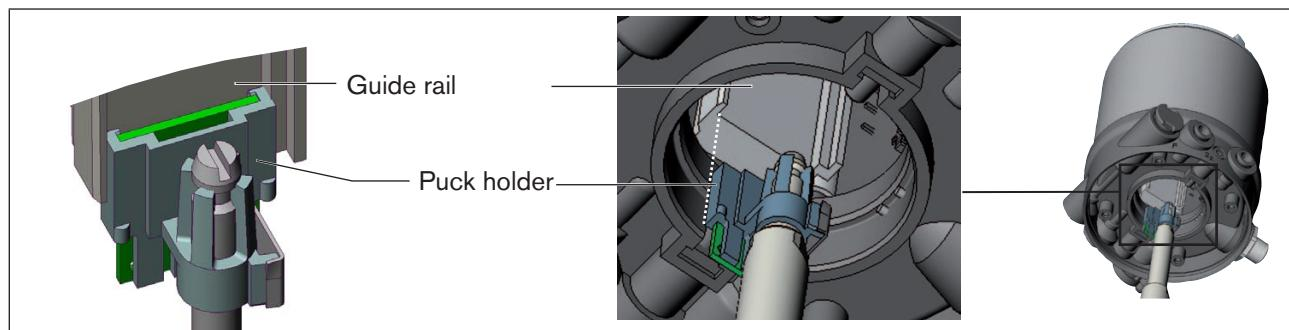

Figure 17: Aligning the puck holder
1. the puck holder can be inserted into the guide rail of the positioner (see "Figure 17") and